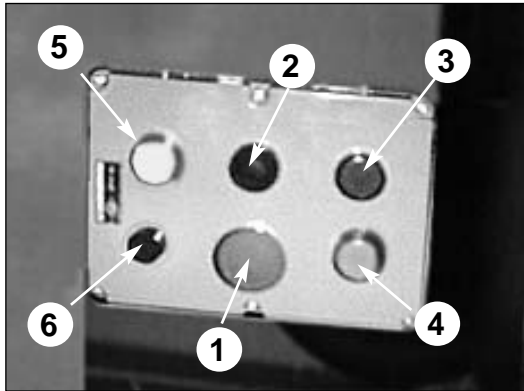

fig. 11
**Layout of the control panel positioned next to the distributor** (fig.11).